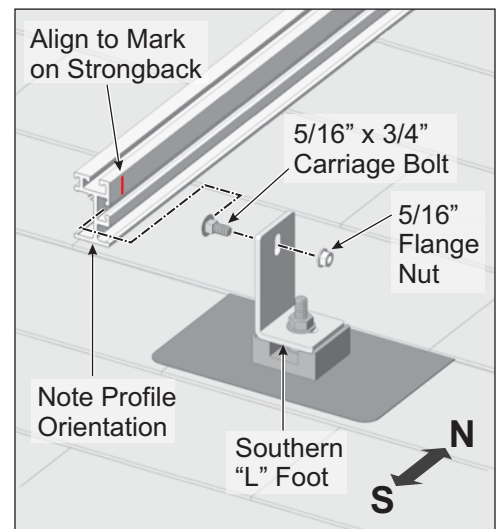

Figure 4-1: Attaching Strongback to Southern "L" foot
- C. Secure with 5/16" flange nut. Finger tighten for now. (See Figure 4-1)